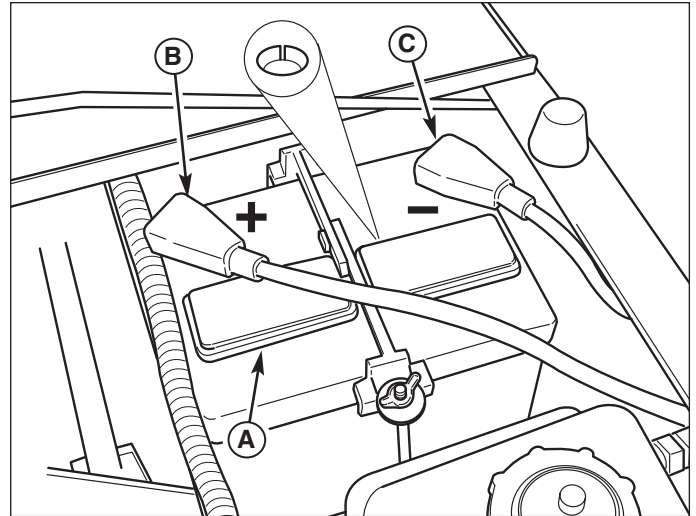

Figure 25. Battery Compartment
2. Remove the battery filler cap (A, Figure 25). Fluid must be even with the split ring full mark. If not, add distilled water.